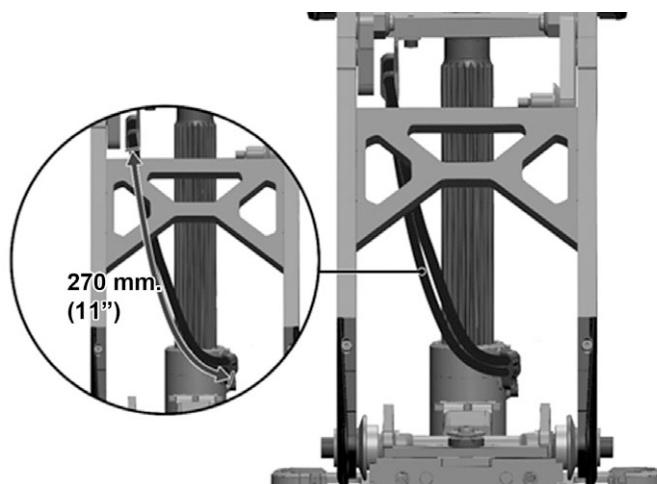

Figure 146. The length of the cable loop between the cable brackets on the lower part of the AP elevator and the pillar must be 270 mm. (11").
10. The length of the cable loop between the lowest cable bracket on the lower AP elevator arm and the cable brackets on the pillar must be 270 mm. (11"). See fig. 146.